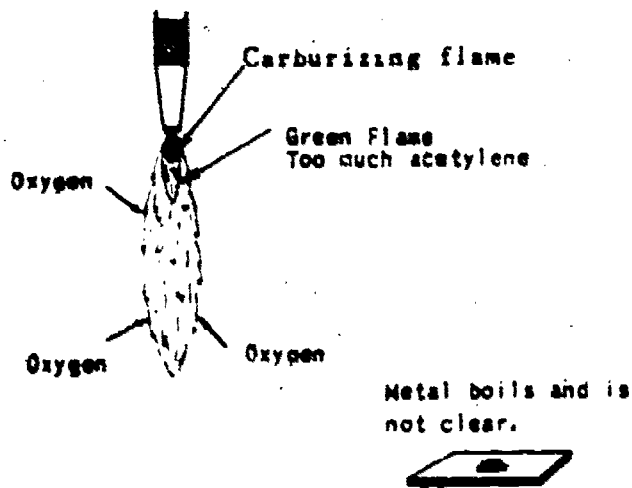

Figure 67. Carburizing Flame
**CARBURIZING FLAME.** The carburizing or excess acetylene flame (figure 67) contains excess carbon. This flame is usually used for heating metal for soldering and brazing.